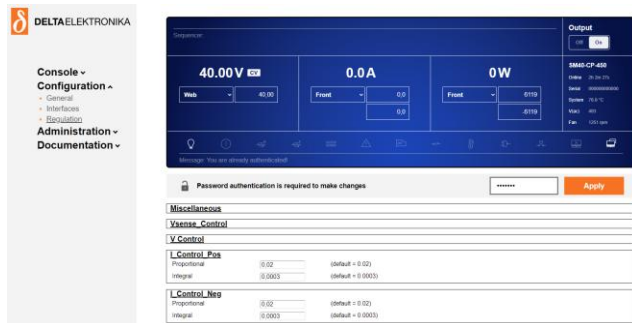

Figure 7.11: CC-control adjusting
- Adjust the setting of Proportional and Integral until a good result is achieved. See Figure 7.11.